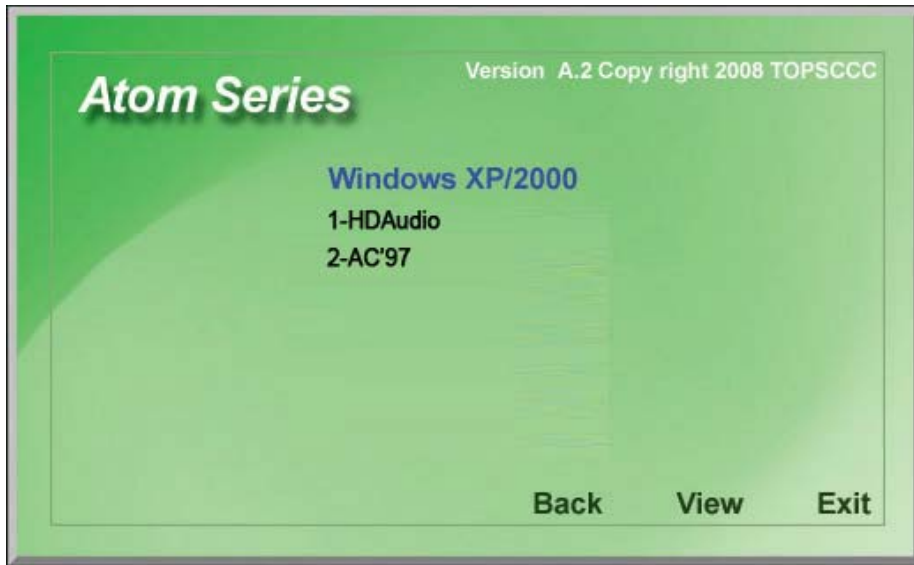

Figure 6-19: Audio Driver Options
Step 3: The screen in Figure 6-19 appears
Step 4: Select “2-AC’97” in Figure 6-19